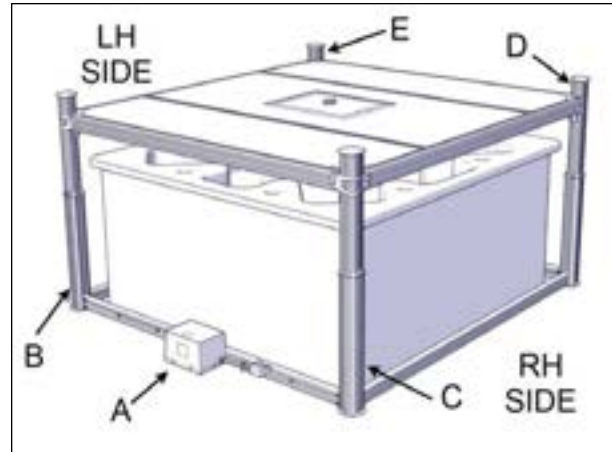

FIGURE 48: OPERATOR AND JACKS INSTALLATION
1. Install the motor frame in place, usually to the opposite side of the spa entrance see Figure 48. The standard model will need the motor frame to be on the short side of the cover, whereas the long-side model will need the motor frame on the long side of the cover.